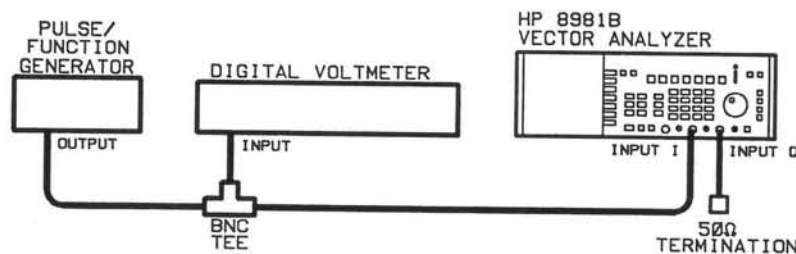

Figure 4-7. DC Vector Accuracy Test Setup
3. Connect the equipment as shown in Figure 4-7: